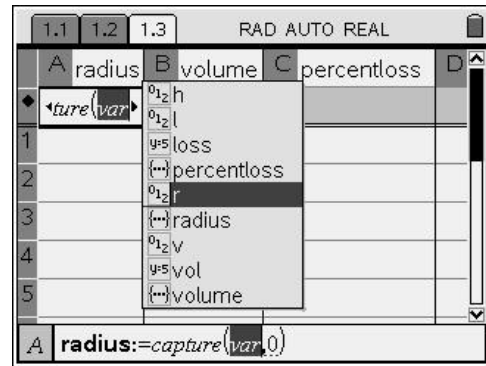

Figure 28
28. Set the spreadsheet up to manually collect data from the cylinder drawing. Position the cursor in the space below the column heading “radius”. To manually collect data press MENU $\langle 3 \rangle$ $\langle 2 \rangle$ $\langle 2 \rangle$ for Menu, 3:Data, 2:Data Capture, 2:Manual Data Capture. “var” will be shaded, and to select the variable to be captured, press STOP VAR and select “r” from the displayed list. (Figure 28) Press ENTER . (The zero indicates that the data will be captured manually.)